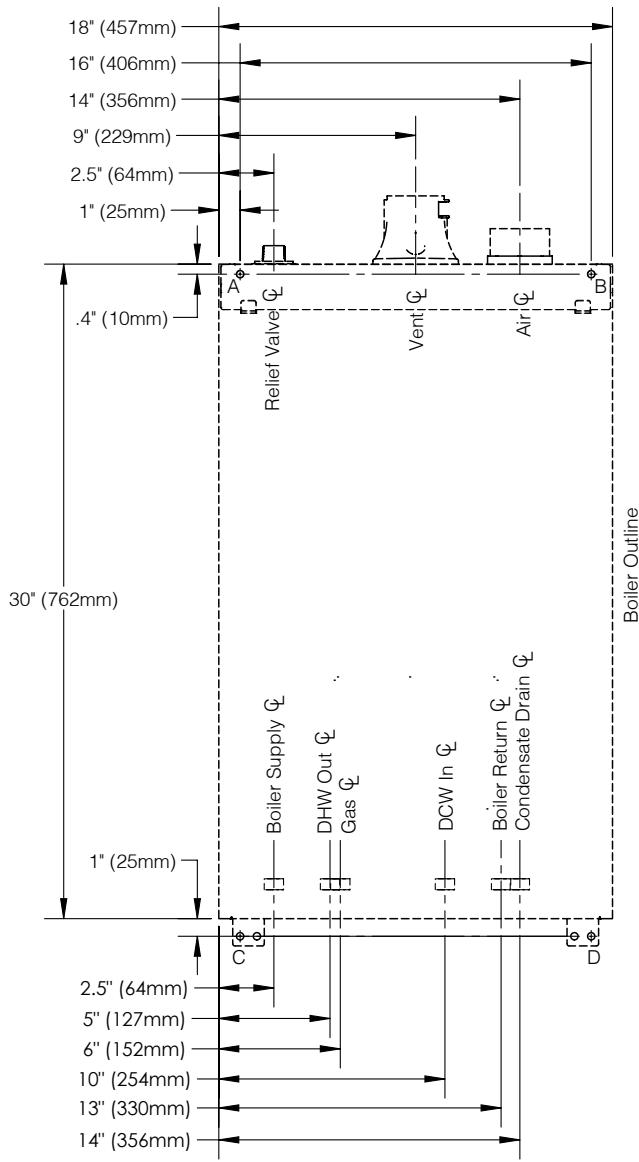

Figure 6-4: Wall Layout and Mounting Holes
2. Mark wall bracket hole locations using dimensions shown in Figure 6-4. Ensure bracket is level.